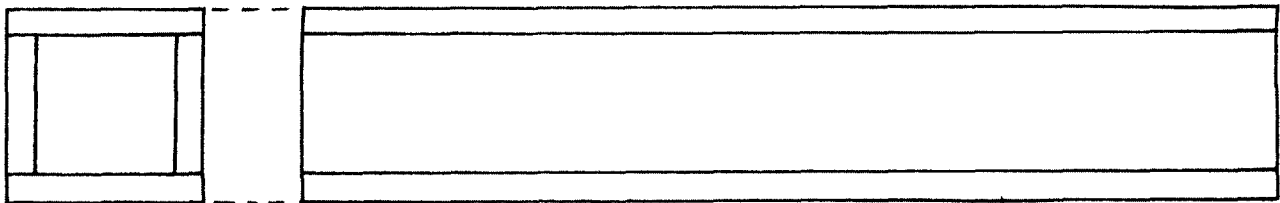

Figure 3
5.6 Construction shall consist of butt-jointed method. (See Figure 3)